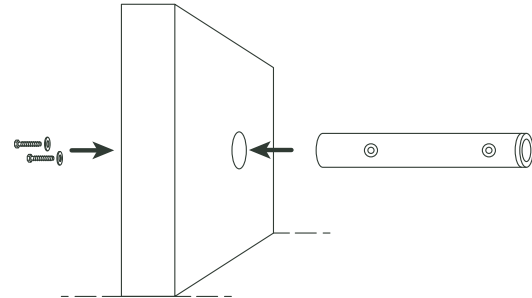

FIG. 10
3. Secure the pole by screwing in the bolts with washers through the bottom of the base plate and into the bottom of the pole. (Fig. 10)